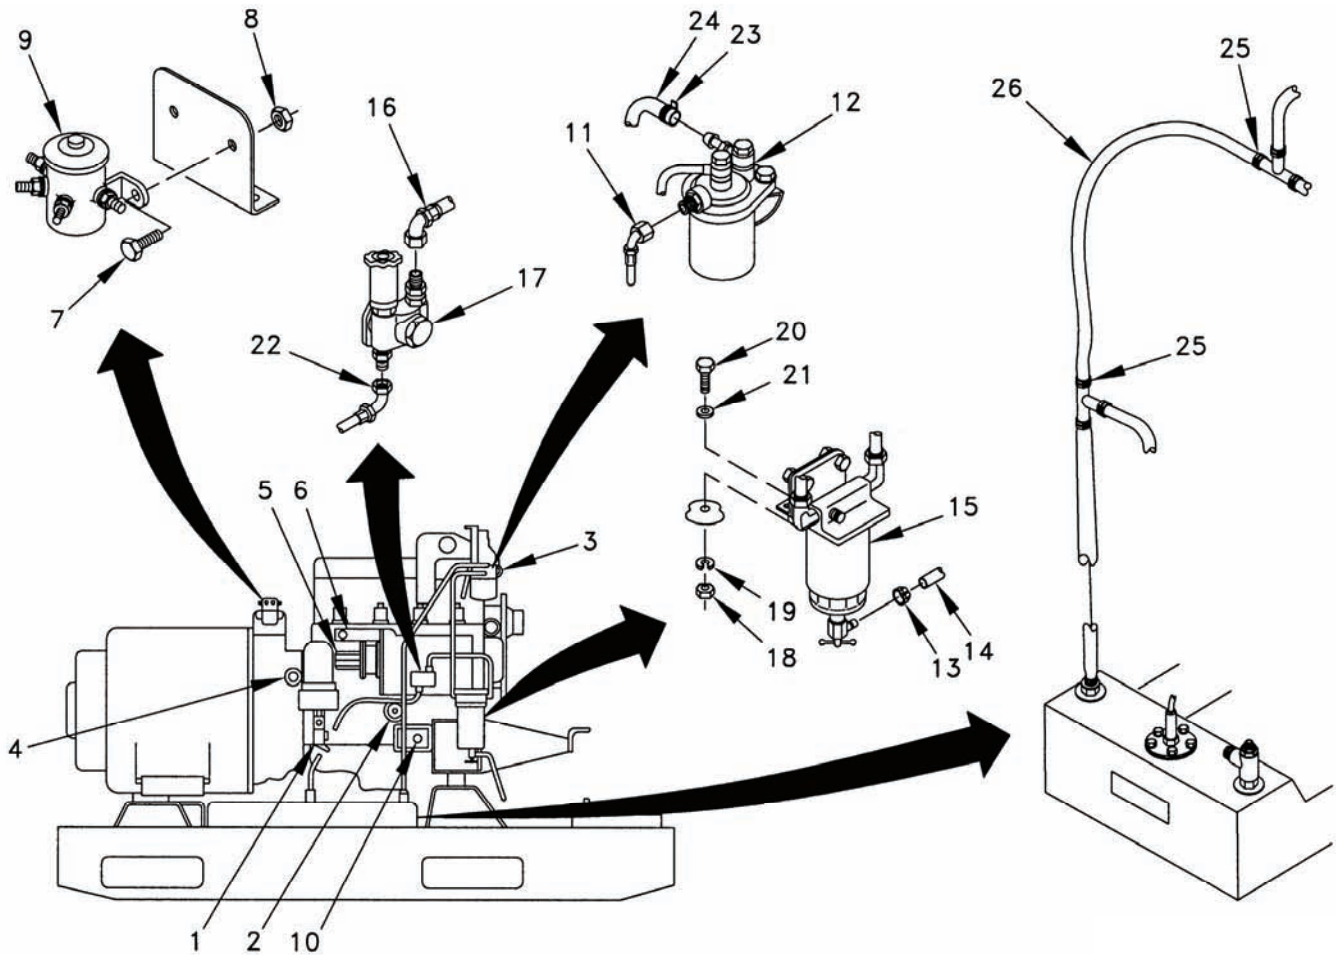

Figure 5-18. Right Side Engine Components.
- a. On right side of engine, tag and disconnect electrical leads from low oil pressure switch (1, Figure 5-18), oil pressure sender (2), temperature sending unit (3), magnetic pickup (4), and fuel injection pump governor actuator (5).
- b. Disconnect wire 243A from glow plug bus bar (6).
- c. Remove two screws (7), lock nuts (8), and contactor (9) with wires connected. Tie contactor back to harness out of the way for engine removal.
- d. Remove DEAD CRANK switch (10).
- e. Disconnect fuel line (11) from engine fuel filter (12). Cap openings.
- f. Remove clamp (13) and tag and disconnect hose (14) from fuel/water separator assembly (15). Cap openings. Discard hose and clamp.
- g. Disconnect fuel line (16) from fuel transfer pump (17). Cap openings.
- h. Remove nuts (18), lock washers (19), bolts (20), washers (21), and fuel filter/water separator assembly (15) from engine. Discard fuel/water separator and mounting hardware.
- i. Disconnect fuel line (22) from fuel transfer pump (17). Cap openings.
- j. Loosen clamp (23) and remove fuel return line (24) from engine fuel filter (12). Cap openings.
- k. Disconnect two clamps (25) (one on each end of hose) and fuel hose (26).